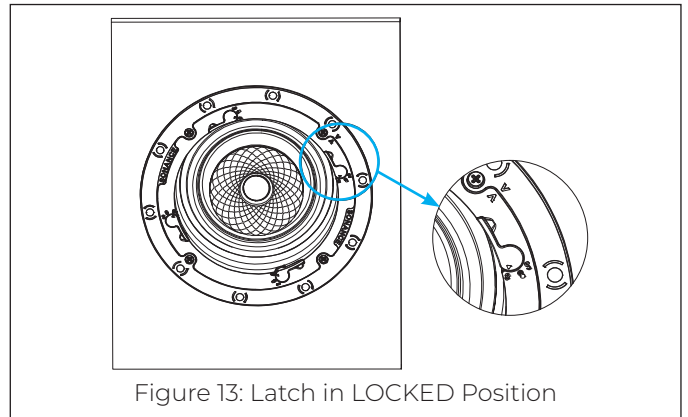

Figure 13: Latch in LOCKED Position
13. Use thumb pressure to rotate the VX speaker module Flex Frame latch into the LOCKED position (see Figure 13).